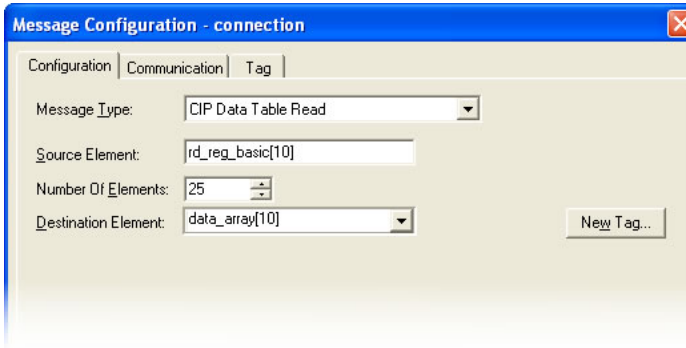

Figure 45: MSG Instruction Configuration
- b) Click the message configuration button (“...”) in the MSG instruction. The “Message Configuration” window will open. Refer to Figure 45.